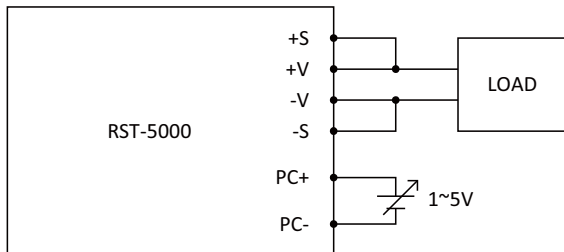

Fig 4.1
- (b)Connect an external voltage source between PC+ and PC- on CN313 or CN314 as shown in Fig 4.1.